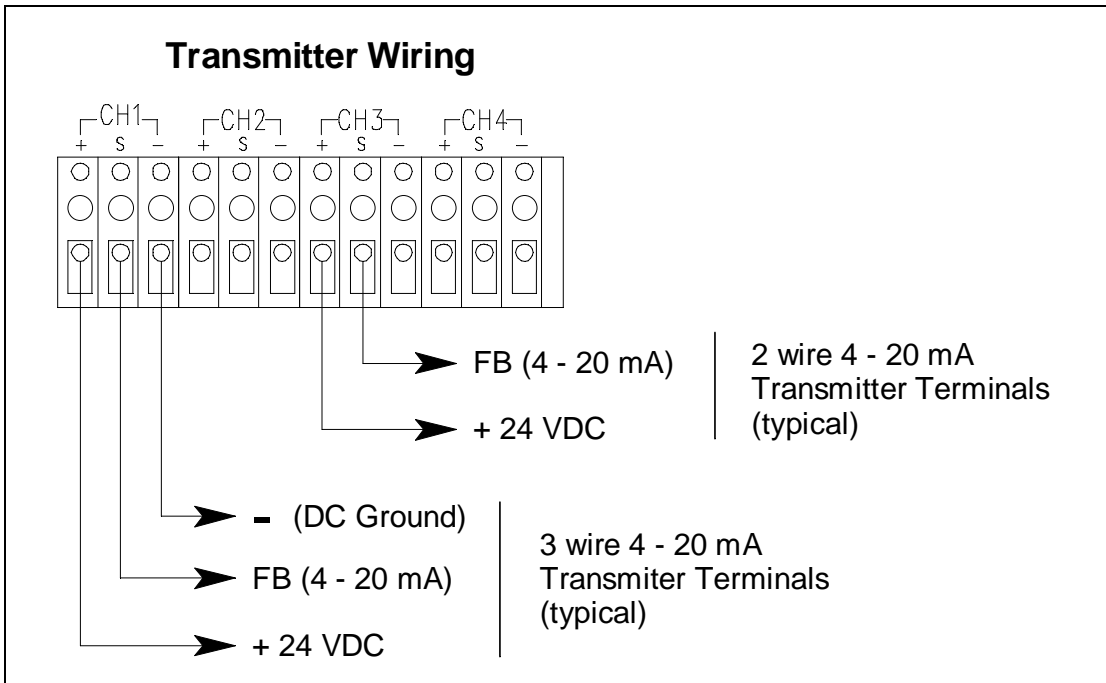

Figure 6: Transmitter Wiring Diagram
4. Connect the AC power wires to the AC terminal strip and the earth ground wire to the # 10 ground stud as shown in Figure 6.